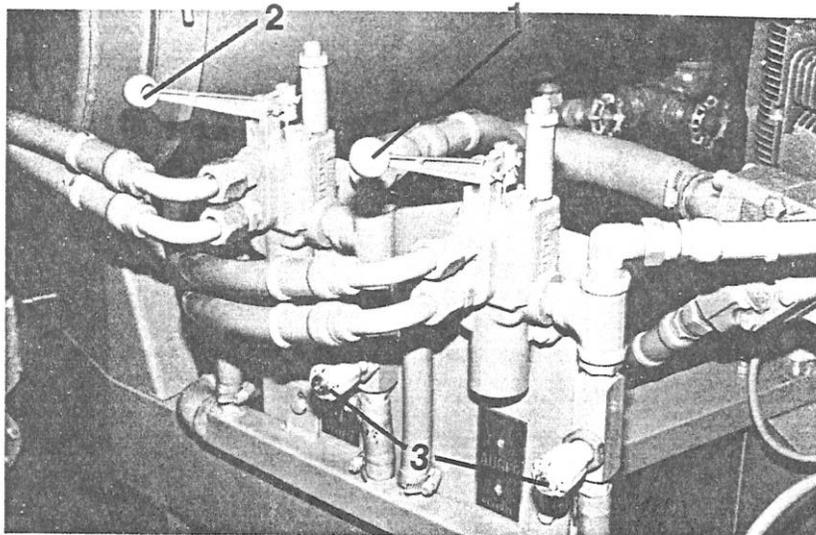
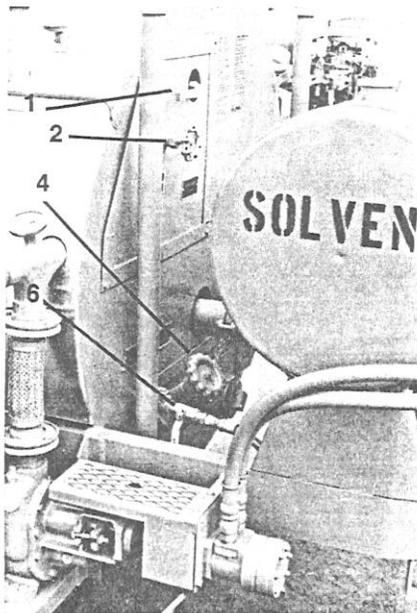

FIGURE 11
FIGURE 12
1. Return hydraulic controls to "off" position. See Figure 11.
1. With engine running, start agitation by moving the auger hydraulic control (1) for clockwise rotation (Figure 11). If auger jams, control may be moved for counterclockwise rotation.
- a. Move the pump hydraulic control (2) for pumping rotation. (Figure 11).
- b. Open recirculation valve (1) to allow sealant to recirculate.
- c. Open tank valve (4) to allow sealant to enter pump. Refer to Figure 12.
- d. Hydraulic flow control valves (3) have been added to increase the flexibility of the BC220 and BC220-4. See Figure 11. Counterclockwise rotation of the valves decreases hydraulic pressure. Consequently, the speeds of the material pump and auger may be varied. For best results keep both flow control valves turned in clockwise, unless it is necessary to independently slow pump or auger speed. To slow both pump and auger speed, reduce the speed of the engine.
- g. Adjust recirculation valve (1) to allow desired flow through applicator wand. Figure 12.
4. Actuate pump in reverse or suction direction. Figure 11.
7. Disengage pump, disconnect supply hose and close tank valve (4).
Inadequate hydraulic pressure.	Increase pressure by turning Hydraulic Flow Control Valve. See Fig. 11, Page 11.